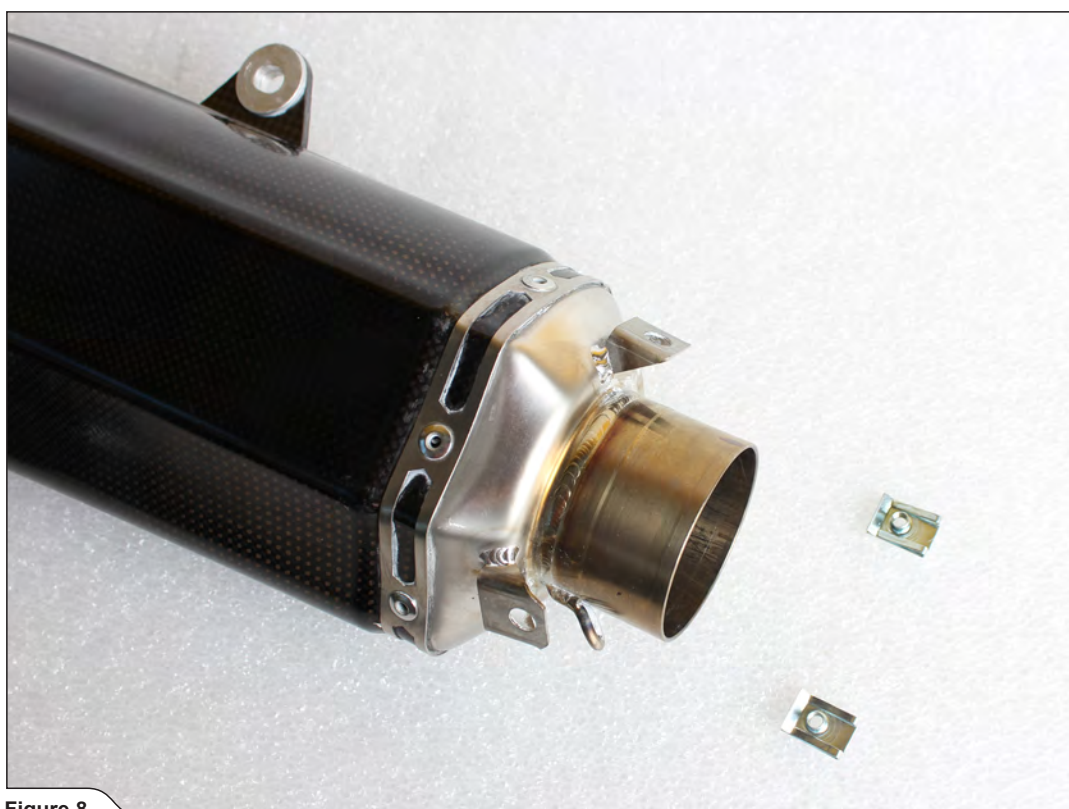

Figure 8
4. Install the two Akrapovič press on nuts from Akrapovič installation kit on the muffler. (Figure 8).